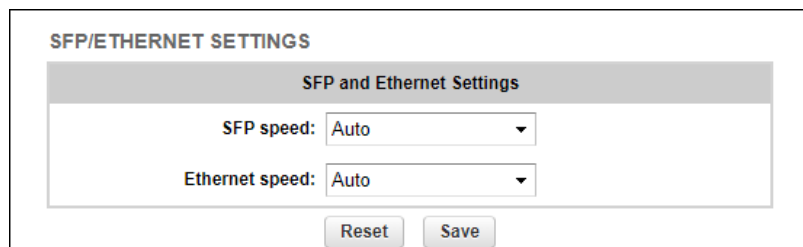

Figure 35. Configurator GUI (SFP/ETHERNET SETTINGS dialog)
- The **SFP/ETHERNET SETTINGS** dialog will be shown (Figure 35 \(page 108\)).